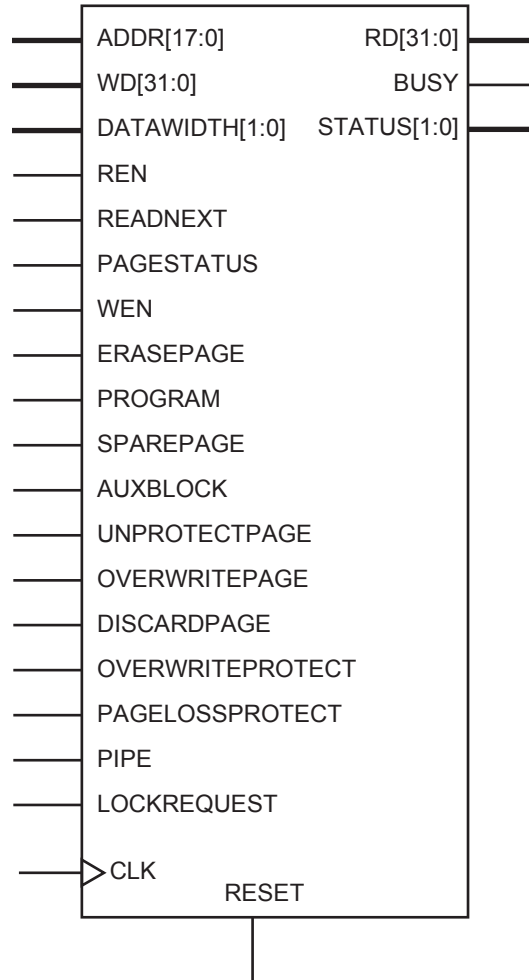

Figure 2-32 • Flash Memory Block
Fusion is the first FPGA that offers a flash memory block (FB). Each FB block stores 2 Mbits of data. The flash memory block macro is illustrated in Figure 2-32. The port pin name and descriptions are detailed on Table 2-18 on page 2-40. All flash memory block signals are active high, except for CLK and active low RESET. All flash memory operations are synchronous to the rising edge of CLK.